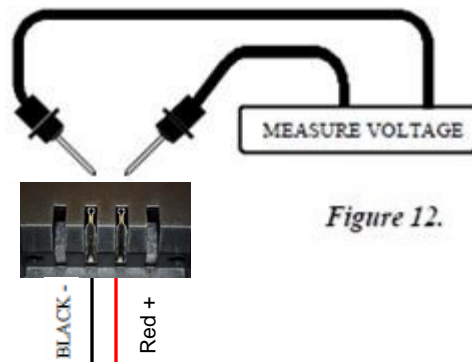

Figure 12.
2. Measure voltage across the two inside terminals on the connector of each battery pack. **See figure 12.**
- 0VDC? - Check main circuit breaker (1) and battery harnesses (4) for continuity.